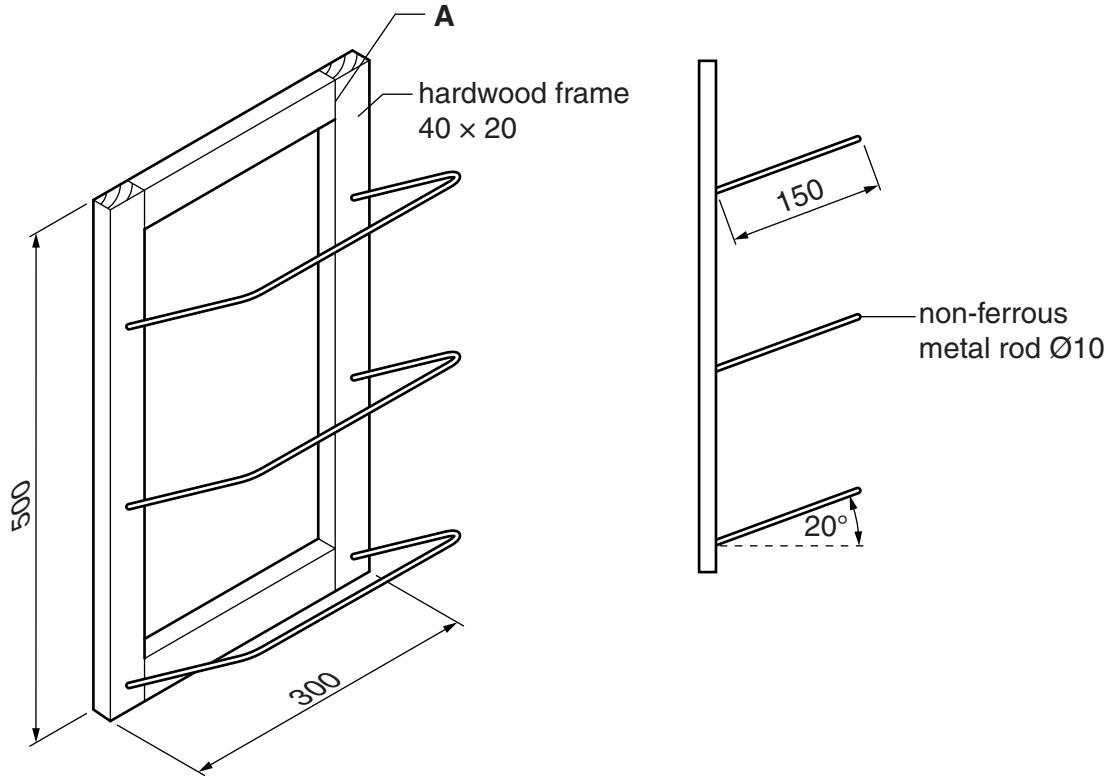

Fig. 9
- 11 Fig. 9 shows views of a towel holder made from hardwood and non-ferrous metal.